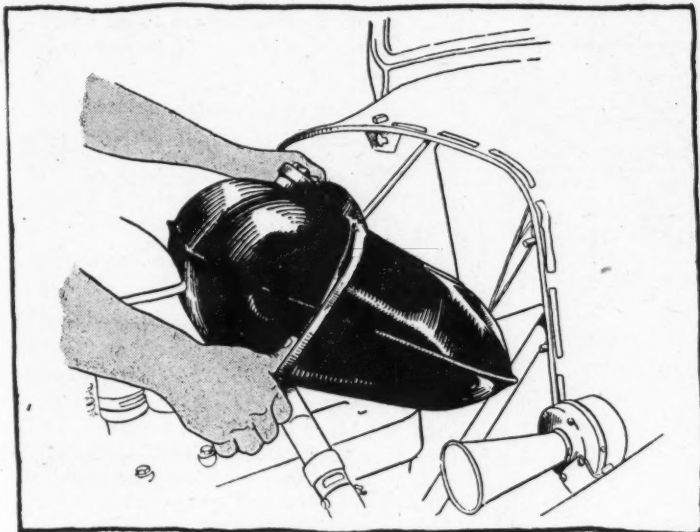

Fig. 32. Removing gasoline tank from cowl
10. Remove gas tank from cowl, as in Fig. 32.
13. Replace four nuts to hold gas tank to cowl, as in Fig. 32.